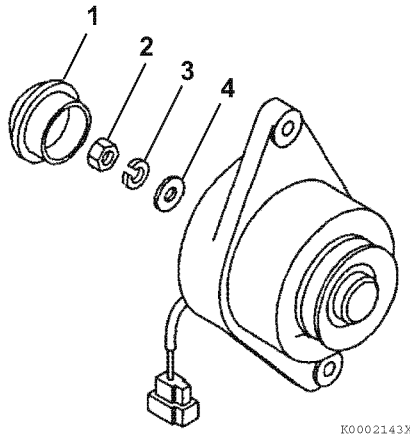

Figure 11-24
1. Remove the rear cover (Figure 11-24, (1)).
2. Remove the nut (Figure 11-23, (2)), lock washer (Figure 11-24, (3)), and flat washer (Figure 11-24, (4)).